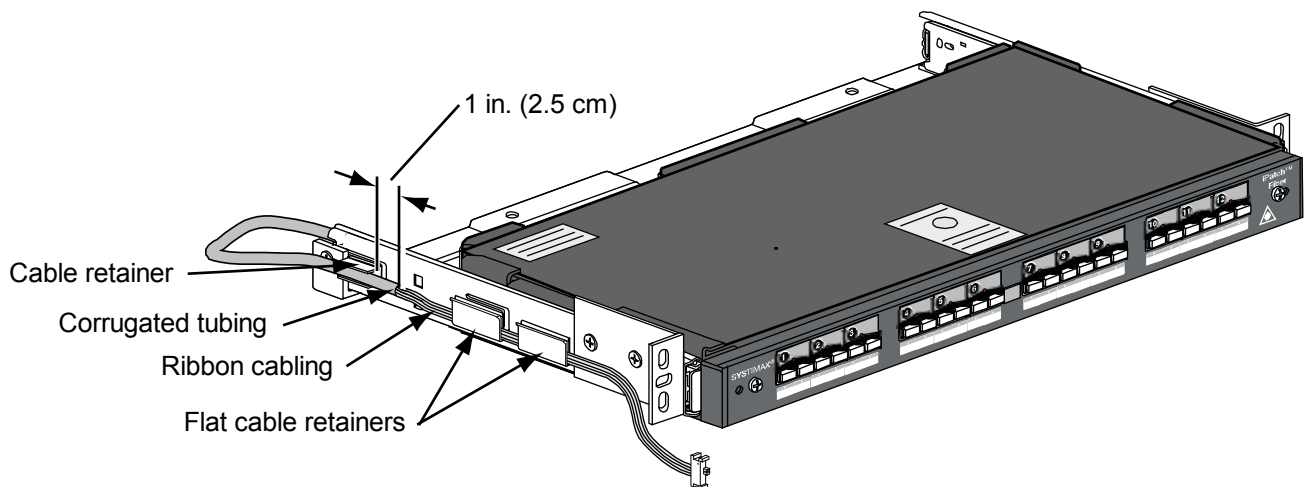

Figure 1. Route the Panel Bus Jumper
3. Snap the corrugated tubing protecting the panel bus jumper into the cable retainer on the outside of the rail as shown in Figure 1.
5. Position the exposed ribbon cable of the panel bus jumper in the flat retainer on the outside of the sliding rail as shown in Figure 1.